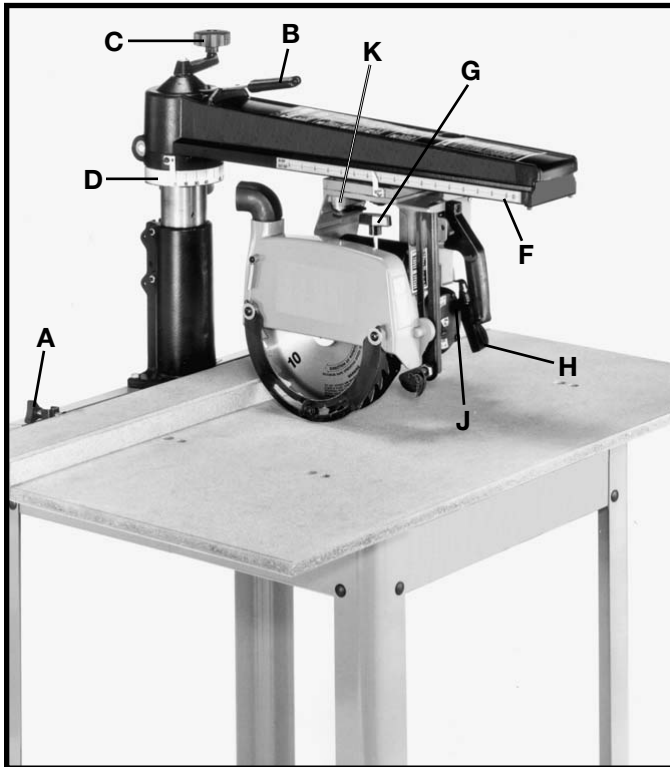

Fig. 74
The following is an explanation of the operating controls of the Delta 10" Radial Saw. We suggest you study these explanations carefully to familiarize yourself with the controls before turning on the power. Doing otherwise may cause damage to the saw or personal injury (Figs. 74 and 75).
A. TABLE CLAMP KNOBS. Allows the operator to quickly set the desired fence position. Fig. 74
B. TRACK ARM INDEXING RELEASE HANDLE. Releases the indexing pin from the 0 degree and 45 degree positions to allow the arm to rotate. Depress handle to release the index pin. Fig. 74
C. TRACK ARM ELEVATING HANDLE. Controls the depth-of-cut in all operations. Turn the handle clockwise to raise or counterclockwise to lower the track arm. Fig. 74
D. MITER SCALE. Indicates degrees left and right for setting track arm to desired miter angle. Fig. 74
F. RIP SCALE. Indicates the in and out rip positions of the cutter-head. Fig. 74
G. BLADE GUARD CLAMP KNOB. Clamps the blade guard at rotated positions for ripping. Fig. 74
H. BEVEL CLAMP HANDLE. Controls tilt of motor for bevel cutting operations. Locks motor at any desired angle on the bevel scale. Lift handle to loosen and push down to lock. Fig. 74
J. BEVEL INDEX RELEASE KNOB. Locates 0 degree, 45 degree, and 90 degree. Positions the motor for bevel setting. When tilting the motor for bevel cutting, the bevel clamp handle must first be loosened. To release the index pull out on the release knob. Fig. 74
K. YOKE INDEXING RELEASE LEVER. Locates each 90 degree position of the yoke for ripping or cross-cutting operations. When rotating the yoke, the yoke clamp handle must first be loose. Push the release lever either up or down to release the indexing pin. Fig. 74